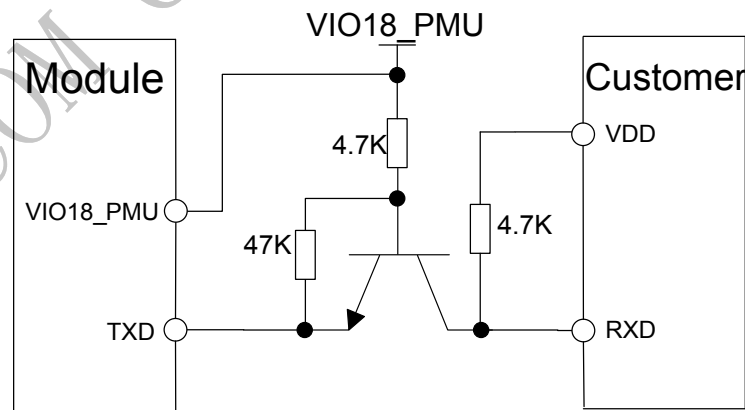
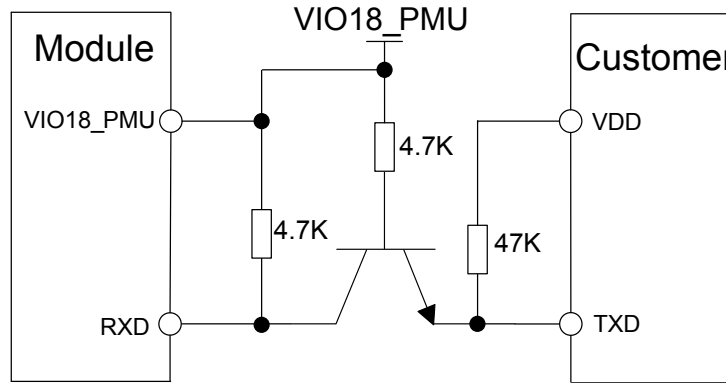

Figure 21: TX level converting by transistor
Figure 22: RX level converting by transistor
*Note: When using the level isolation in Figure 21 and Figure 22, please pay attention to the output sequential of VIO18\_PMU. Only after VIO18\_PMU is normally output, can the serial port communicate normally.*